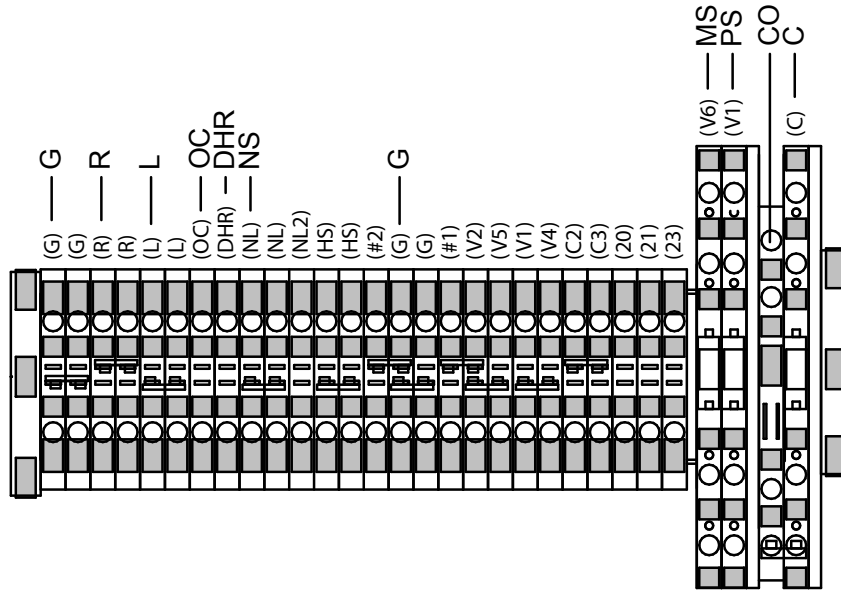

Figure 10. TB1 Howard connections.
20. Connect remaining leads per Table 3 and Figures 10 and 11.